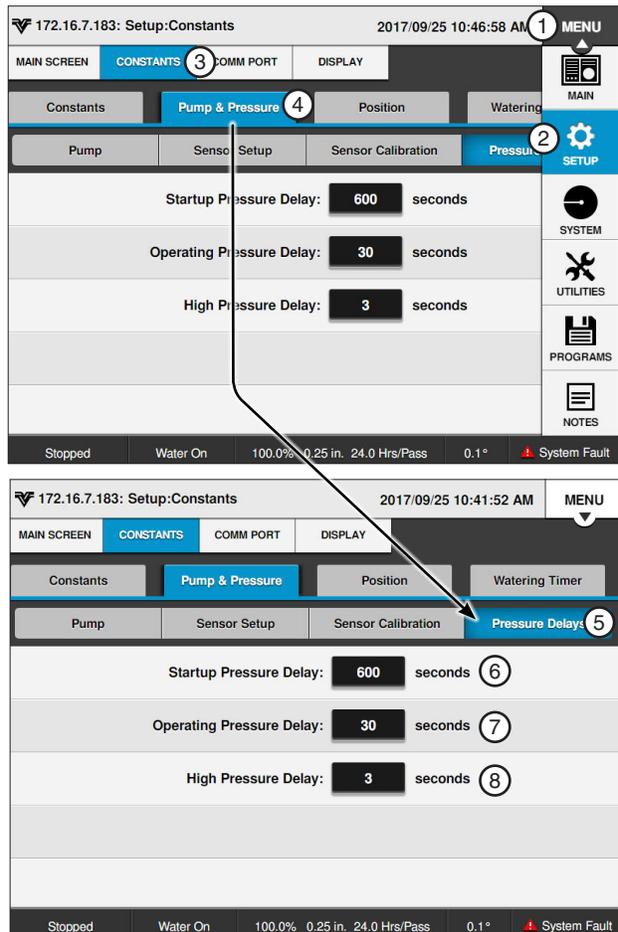

Figure 24-1 1. Menu 2. Setup 3. Constants 4. Pump & Pressure 5. Pressure Delays 6. Startup Pressure Delay 7. Operating Pressure Delay 8. High Pressure Delay
The Pressure Delays setup screen provides the ability to set the pressure delays for Startup, Operating and High Pressure. Push **Menu**, **Setup**, **Constants**, **Pump & Pressure** and push the **Pressure Delays** button to display the Pressure Delays setup screen. Refer to Figure 24-1.
Startup Pressure Delay bypasses the pressure transducer for the amount of time required in seconds for the machine to initially build water pressure above the low pressure limit after the pump has been started. The Startup Pressure Delay setting has a range of 0 to 5000 seconds. The factory default is set to 600 seconds, or 10 minutes. Refer to Figure 24-1.
1. Push **Menu**, **Setup**, **Constants**, **Pump & Pressure** and the **Pressure Delays** button to display the **Pressure Delays** screen. Refer to Figure 24-1.